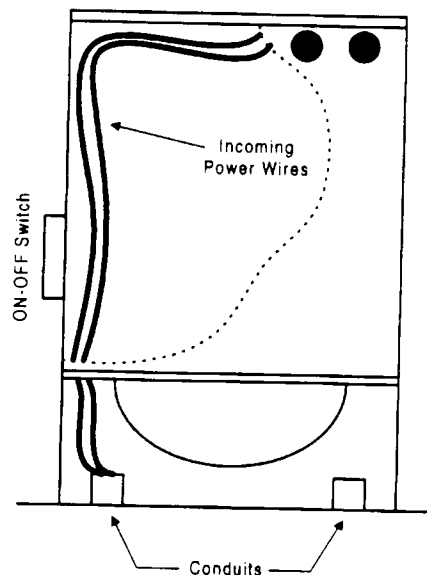

FIGURE 2.2A
- Route incoming high voltage power through conduit and into the operator as shown in figure 2.2A.